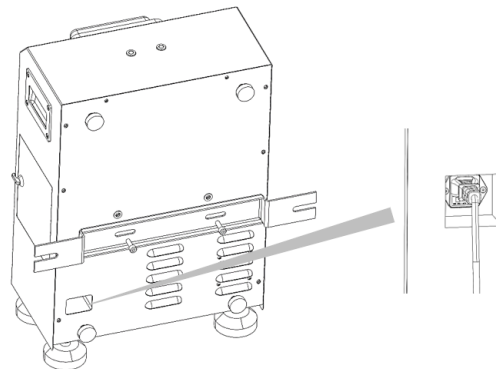

FIG.6
4. Install the supply cord to the device as shown in FIG. 6